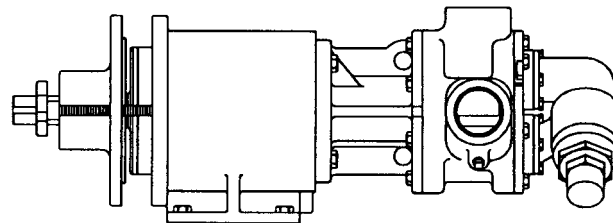

FIGURE 8
2. Turn the handwheels evenly to back out the bearing housing and outer magnet assembly. **See Figure 8.**